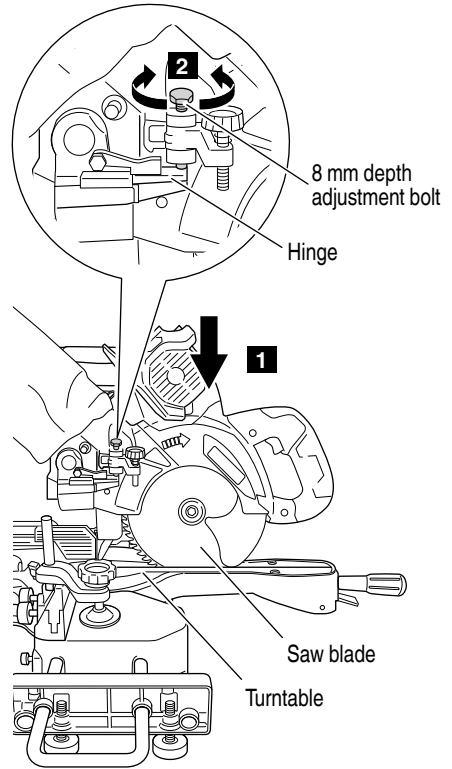

Fig. 18
When you replace a saw blade with a new one, adjust the lower limit position so that the saw blade will not cut the turntable or complete cutting cannot be done. To adjust the lower limit position of the saw blade, follow the procedure (1) indicated below. (Fig. 18) Furthermore, when changing the position of a 8 mm depth adjustment bolt that serves as a lower limit position stopper of the saw blade.
(1) Turn the 8 mm depth adjustment bolt, change the height where the bolt head and the hinge contacts, and adjust the lower limit position of the saw blade.